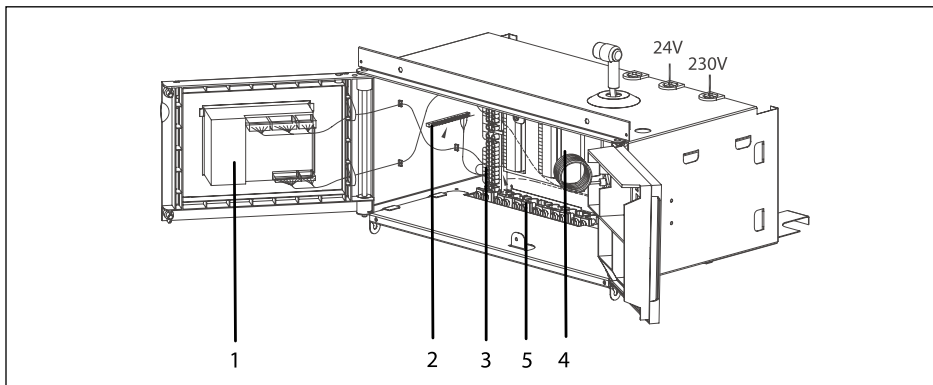

Fig. 15 Fitting 2945 C3 K controller
- **2945 C3 K** - Optimising / weather-compensated boiler control for multiple boilers. These controls are supplied with outside sensor, room sensor, flow sensor (used for multiple boiler installation only) mounting and wiring kit for installation in the boiler, see Fig. 15.